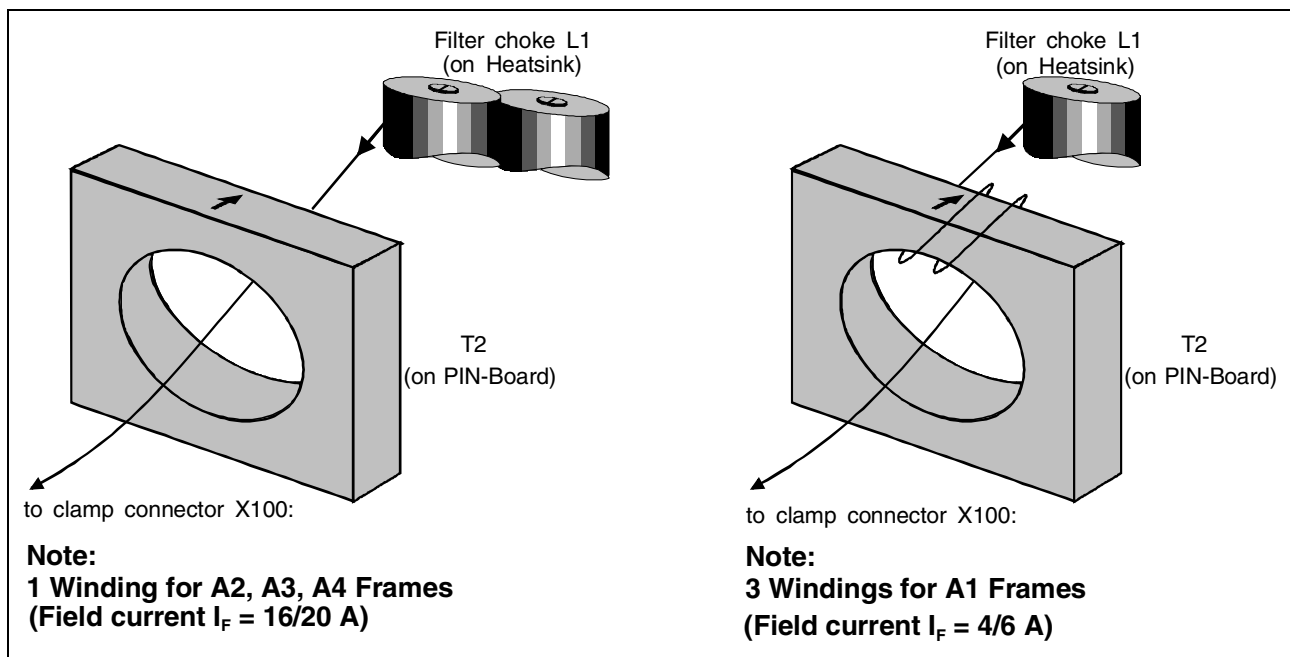

Figure 5-3 Direction and number of windings depending on the field current (type of frame)
- unclamp the connecting cable of the filter choke L1 (sits directly on heatsink) from plug X100 and unwind the cable from the current transformer T2, see *Figure 5-3*.
9. Lead connecting cable from filter choke L1 **once** (for $I_F = 16/20$ A) or **three times** (for $I_F = 4/6$ A) through the current transformer T2 and clamp it to connector X100, see Figure 5-3.